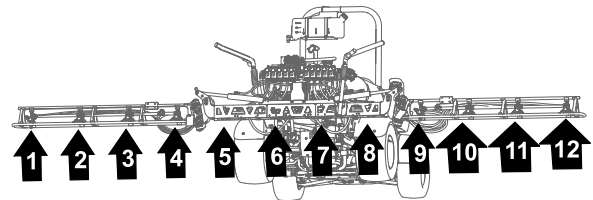

Figure 129
1. Route the hoses for sprayer nozzles 1, 2, 3, and 4 through the R-clamp at the left outboard end of the center-spray section (Figure 129 and Figure 130).
2. Route the hoses for sprayer nozzles 7, 8, 9, and 10 through the R-clamp at the right outboard end of the center-spray section (Figure 129 and Figure 130).
3. Route the supply hoses 279 cm (110 inches) and barbed-hose shanks (3/4 inch) along the spray section to sprayer nozzles 1 and 10 as shown in (Figure 129 and Figure 130).
- Route the supply hoses 234 cm (92 inches) and barbed-hose shanks (3/4 inch) along the spray section to sprayer nozzles 2 and 9 along the spray section as shown in Figure 129 and Figure 130.
- Route the supply hoses 188 cm (74 inches) and barbed-hose shanks (3/4 inch) along the spray section to sprayer nozzles 3 and 8 as shown in Figure 129 and Figure 130.
- Route the supply hoses 188 cm (74 inches) and barbed-hose shanks (3/4 inch) along the spray section to sprayer nozzles 4 and 7 as shown in Figure 129 and Figure 130.